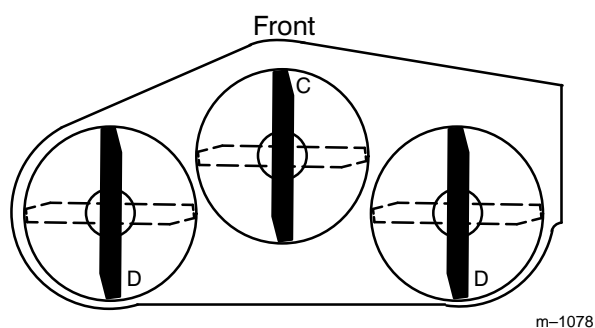
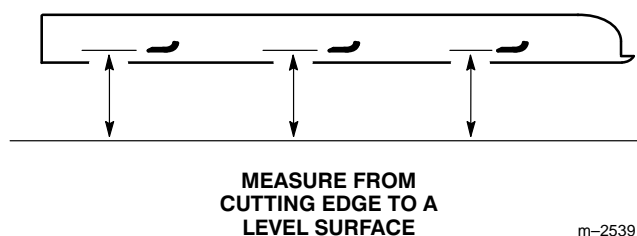

Figure 17
Figure 18
2. Position the blades front-to-rear (Fig. 17). Measure at "C" and "D" locations (Fig. 17) from a level surface to the cutting edge of the blades (Fig. 18).